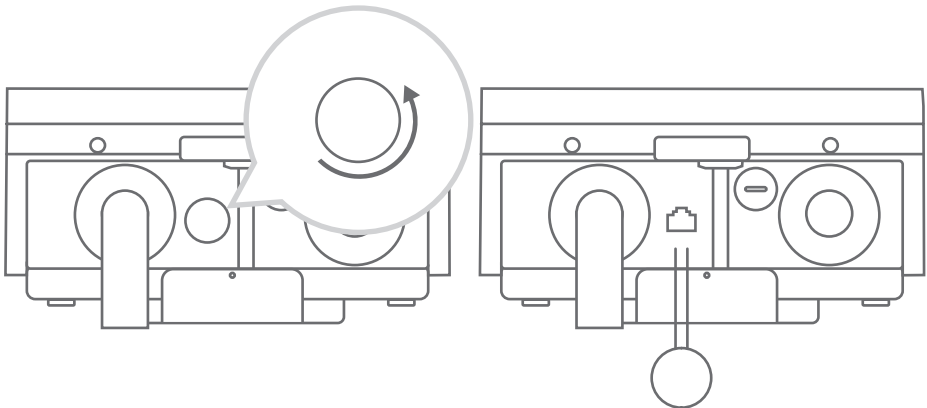

Fig. 5-18
1. Remove the protective cap of the network port on the bottom center of the charger. (See Fig. 5-18)